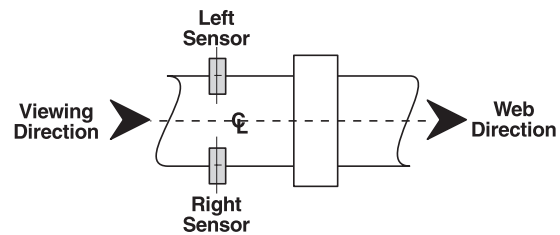

FIGURE 3
**NOTE: To determine which sensor is right and which sensor is left, view the web machine with the web moving away from the viewer. The sensor on the viewer's left is the left sensor and the sensor on the viewer's right is the right sensor (See Figure 3).**